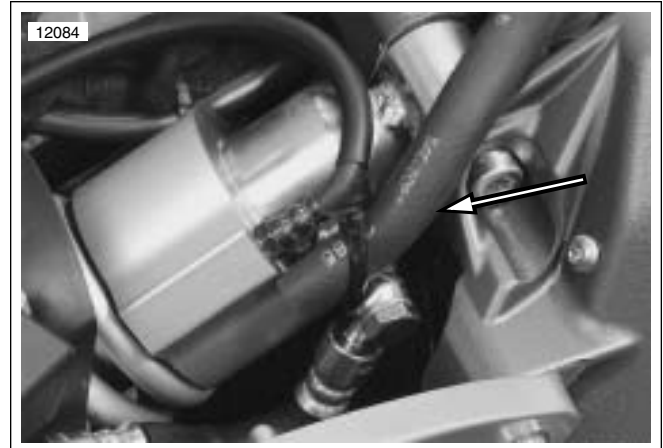

Figure 3-40. Transmission Vent Line
6. See Figure 3-40. Route transmission vent line up through left side of frame exiting under the left rear side of the intake cover assembly. Install cable strap to secure transmission vent line in place. Inspect vent line to verify space between vent line and rear exhaust